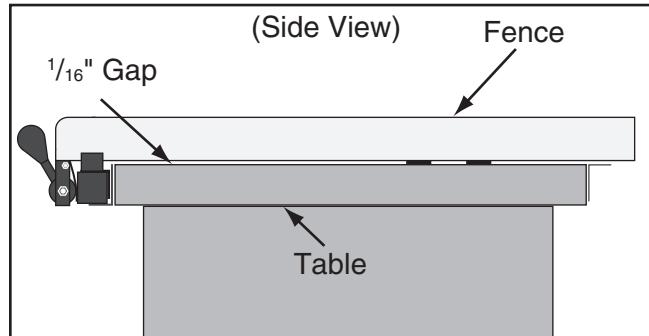

Figure 119. Gap between fence and table approximately $\frac{1}{16}$ " from front to back.
- If the gap is approximately $\frac{1}{16}$ " and even from the front of the table to the back (see **Figure 119**), then no additional adjustments are necessary. Proceed to **Clamping Pressure and Parallelism**.
4. Loosen the rail mounting bolts and adjust the rails as needed until the fence rides smoothly, the gap is approximately $\frac{1}{16}$ ", and is even from front to back (see **Figure 119**).
—If the fence drags across the table, then loosen the rail mounting bolts and adjust the rails just enough so the gap between the fence and the table is even from front to back (see **Figure 119** on **Page 66**). Tighten the rail mounting bolts.